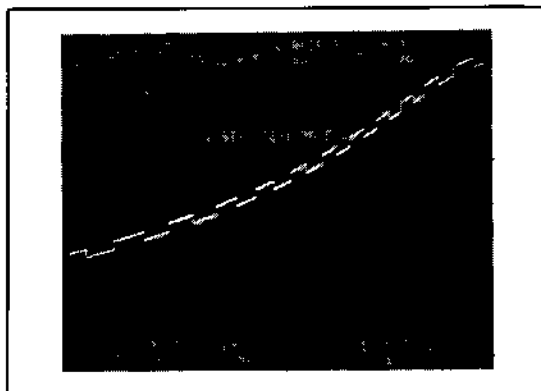

Figure 11-P-8. Faulty A/D Converter Response
- I. **A main signal path problem has occurred. Use the flow chart in Figure 11-P-9 to help isolate the problem to one or more boards.**